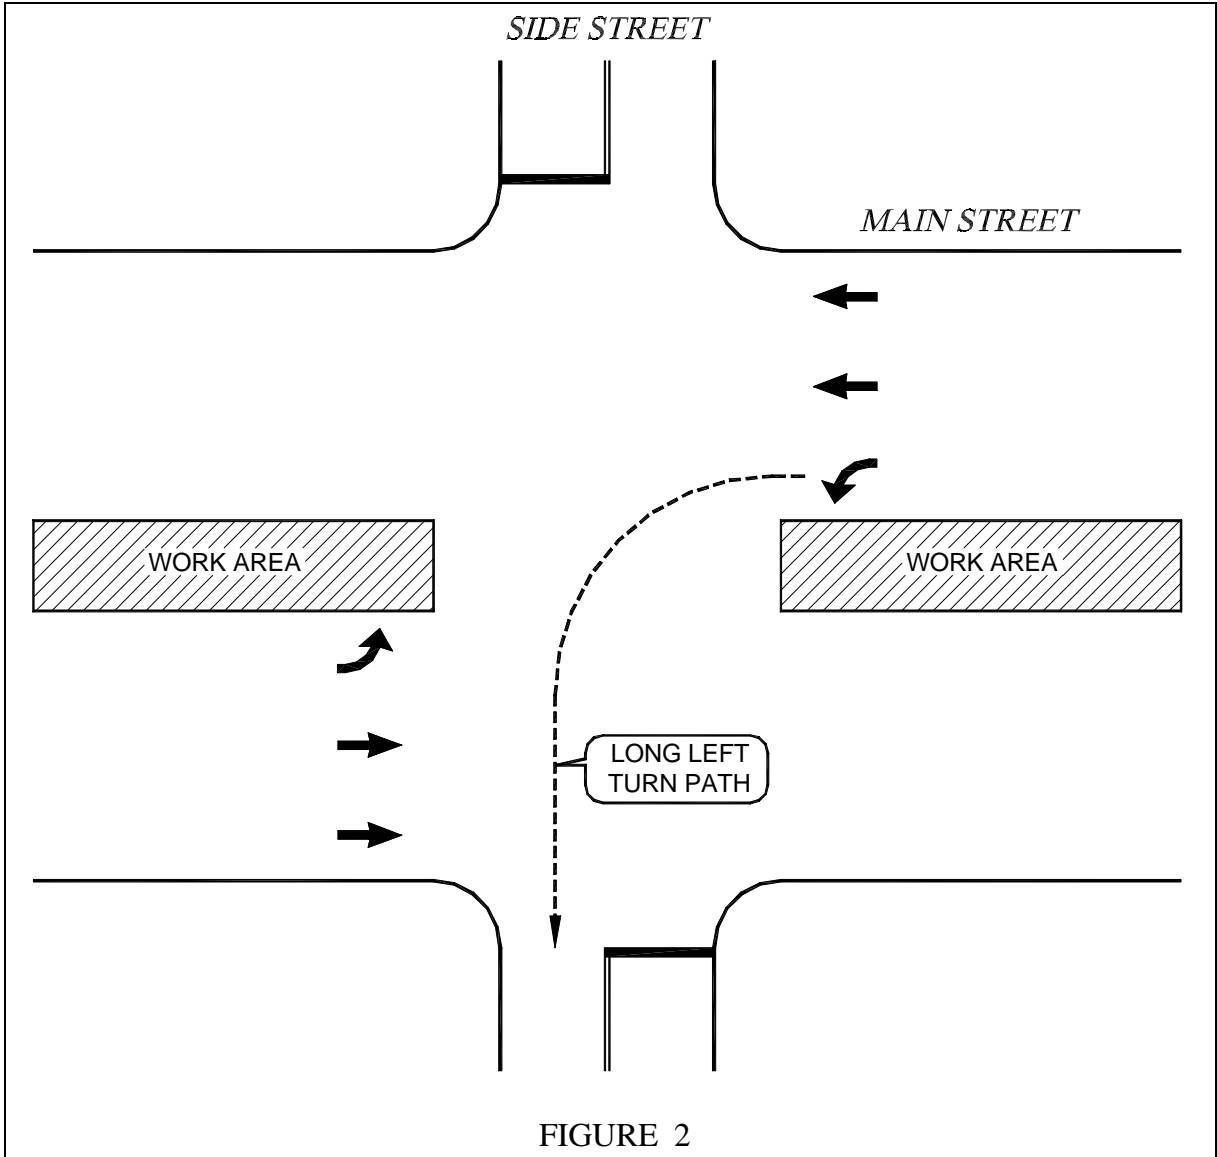

FIGURE 2
A longer all-red change interval may also be needed for main street left turn movements. This is especially important during the stage of construction where main street traffic is moved to the outside of the travel way while work is performed in the median area (see Figure 2). During this construction stage, left turns from the main street must travel quite a distance to reach the cross street.
5. **Modification of Main Street Left Turn Phasing** - If the main street had permissive or protected/permissive left turn phasing prior to construction, protected-only phasing may be needed during construction. As was shown in Figure 2, the turning path for vehicles making a main street left turn can become quite long during certain stages of construction. When this occurs, it may become difficult or dangerous to accommodate permissive left turns. Although one does not want to over-use restrictive protected-only left turn phasing, this is one instance where it may become necessary.